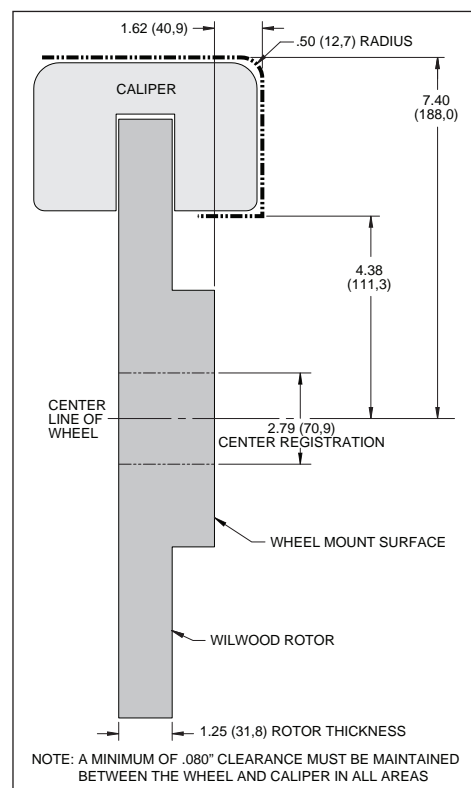

Figure 2. Wheel Clearance Diagram
- Review the wheel clearance diagram (figure 2, page 3) to verify that there is adequate clearance with the wheels you will be using with the installation.
- The caliper piston sizes in this kit are best suited to vehicles using Original Equipment (OE) vacuum assist power brakes, or vehicles that have been converted to manual balance bar pedals with the appropriately sized twin master cylinders.
- Verify the wheel clearance utilizing Figure 2. This kit requires a wheel with a minimum inside barrel diameter of 14.80", with a minimum combined backdrop spacing between the wheel mounting face and the inside spokes of the wheel of 1.62". For wheels with less than 1.62" back drop, wheel spacers to provide additional clearance will be required. Please verify all other dimensions in Figure 2 before attempting installation.